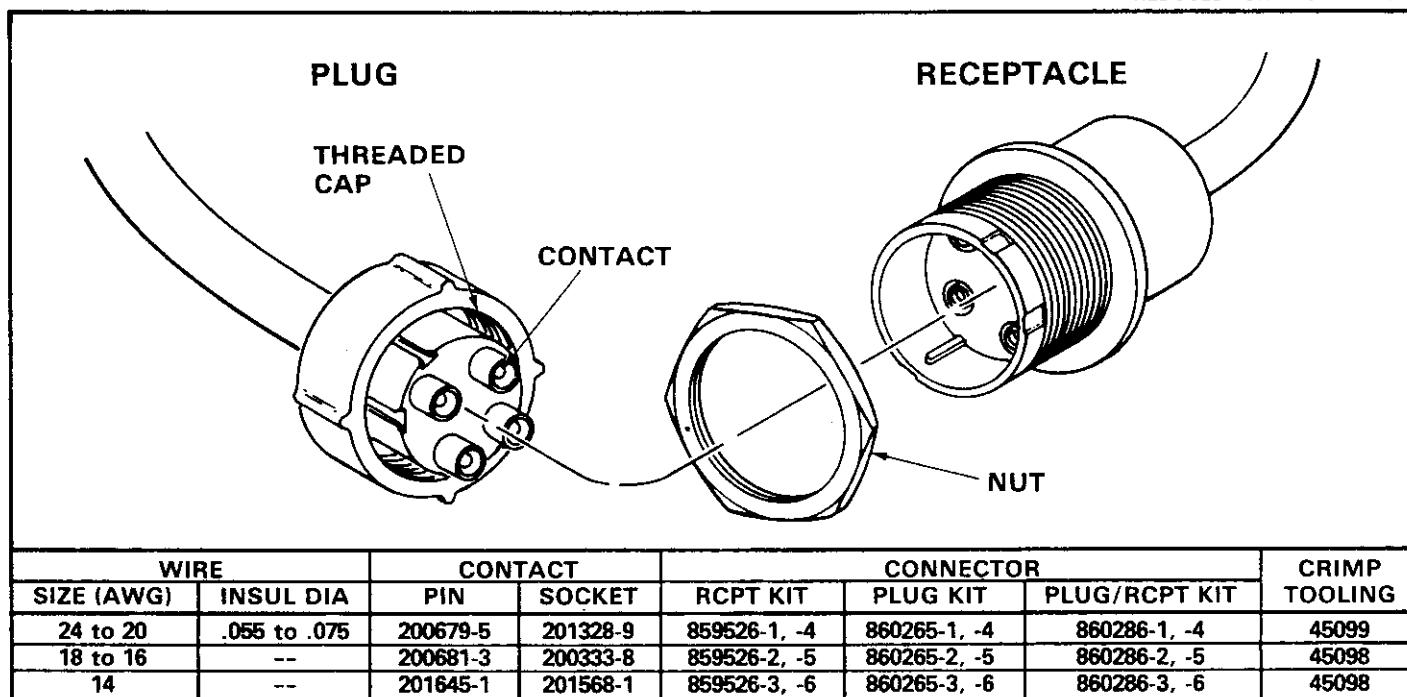

Fig. 1
This instruction sheet (IS) covers the assembly procedures for the AMP 4-pin circular connectors listed in Figure 1. Typical connector configurations are also shown in Figure 1.
2. DESCRIPTION (Figure 1)
When crimping the contacts, use the applicable AMP hand crimping tool listed in Figure 1. Refer to AMP Instruction Sheet IS 1786, packaged with the tool, for complete crimping instructions.
2. Crimp the contact to the wire using the appropriate tooling. Refer to the chart in Figure 1.